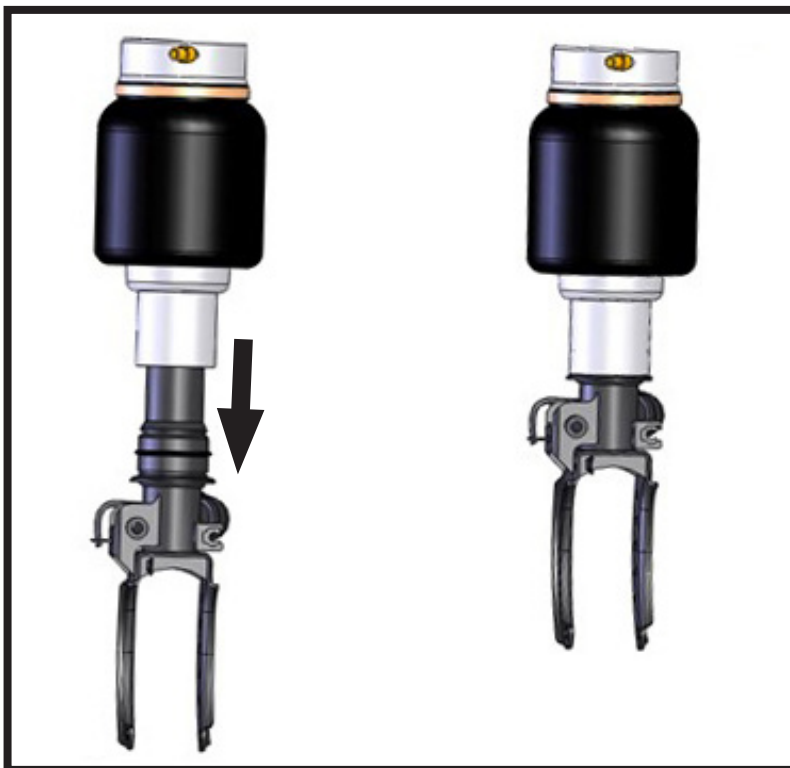

FIGURE 30-2
2. INSTALL THE NEW AIR SPRING ONTO THE SHOCK. (FIGURE 30-2)